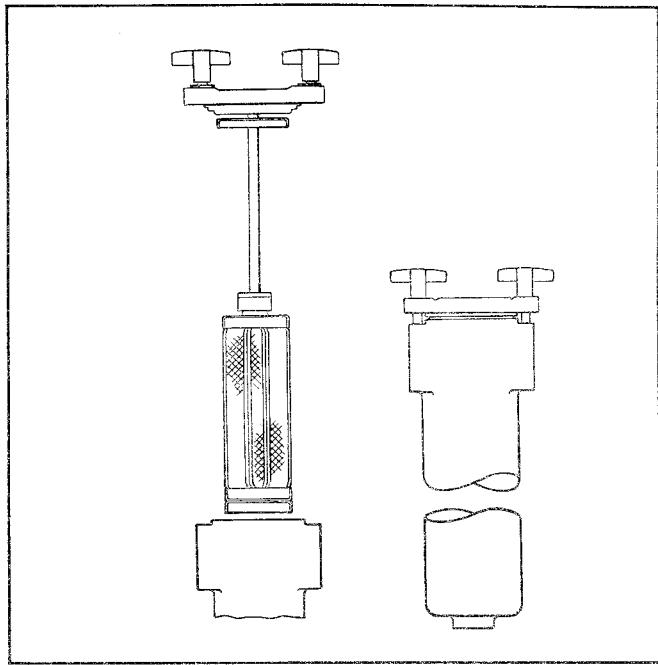

Figure 1. Superflo Filters
**C. Filters and Screens (Figure 1):** Paper particles, trimmings, undissolved solids, metal chips, "skin" and dirt should be removed from ink to assure quality printing, to prevent faulty operation of viscosity controls, and to avoid damage to cylinders, anilox rollers and doctor blades.